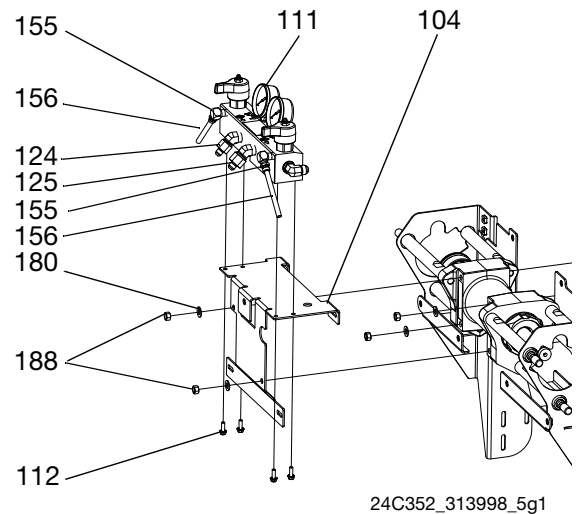

FIG. 6
5. See FIG. 6. Remove four screws (107) securing pumpline to hydraulic power pack. This will also loosen manifold plate (104) from hydraulic driver.
2. See FIG. 6. Align manifold plate (104) with hydraulic driver. Align hydraulic driver with hydraulic power pack. Install four screws (107) securing hydraulic driver to hydraulic power pack. This will also install manifold plate (104) to hydraulic driver. Torque to 300 in-lb (33.9 N•m).